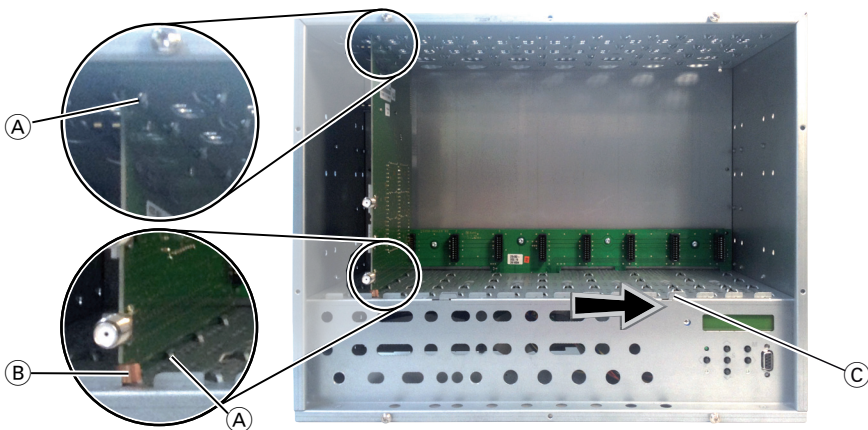

Fig. 3
- Insert the QAM module in grooves (A) of an open slot (with contact strip on the board at the rear wall of the housing) and gently slide it into the head-end station until it makes contact with the board on the rear wall (fig. 3).
- After installing the QAM module close the locking device (C) in the direction of the arrow (fig. 3). Ensure to get a well contact to spring (B).